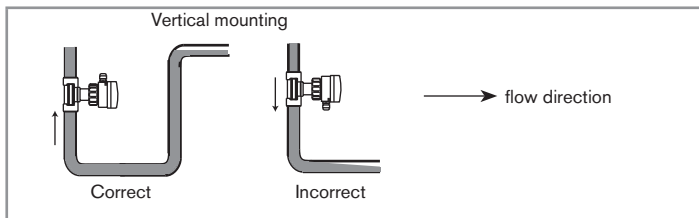

Fig. 10: Filling of the pipe
- Ensure that the pipe is always filled in the section around the device (see Fig. 10).
- When mounting vertically ensure that the flow direction is in an upward direction (see Fig. 10).